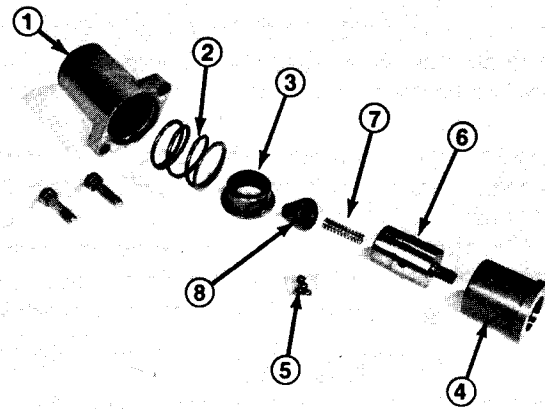

Figure 30
1. Be sure No. 4 spool is in neutral and remove the bonnet, large spring, and stop collar. (Fig. 30).
2. Hold one hand in front of detent sleeve and push the front of the spool in very slowly until the detent balls pop out. Be sure to remove all four (4) balls.